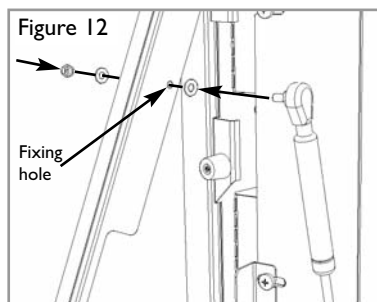

Figure 12
**2)** The damper top fixing is shown in figure 12. Locate the fixing hole in the glass window bracket. Place a nylon washer each side of the bracket, and affix the damper bolt using the "nyloc nut" provided. Tighten the nut and release one quarter turn. Finally check operation of damper from the fully open to fully closed positions.